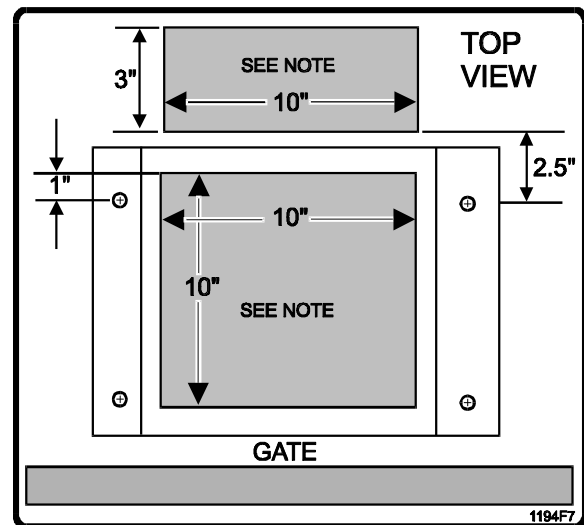

Figure 6. Conduit Entrance Areas
4. Be sure to provide access for wiring conduits (Figure 6).